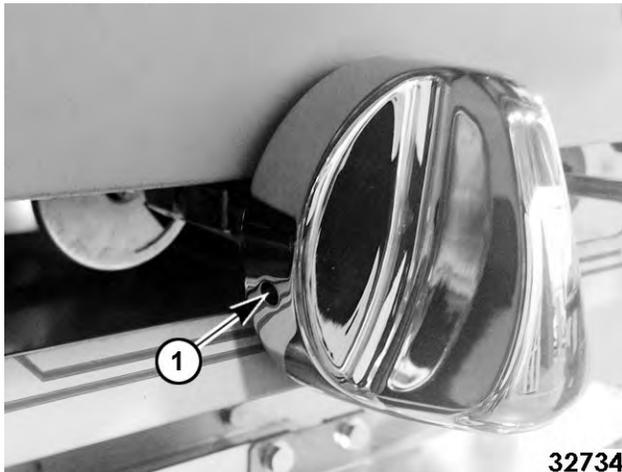

Fig. 6
2. Loosen setscrews (1, Fig. 6) in burner control knobs and remove knobs.